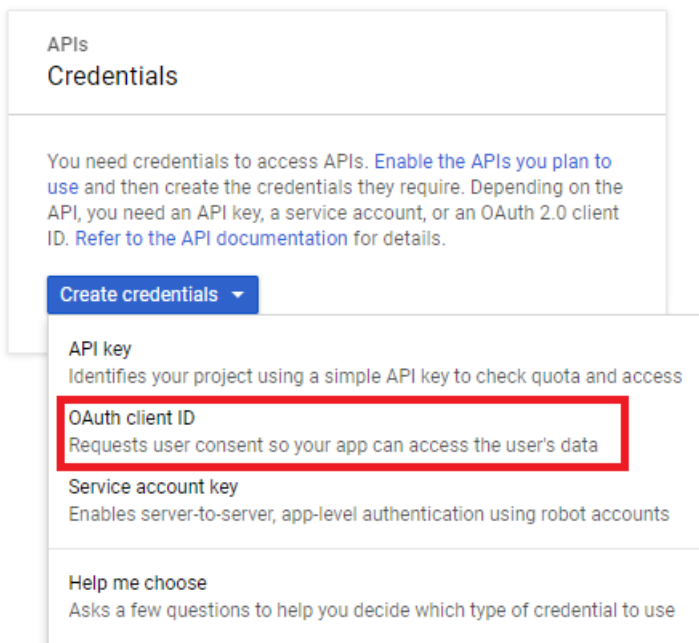

Figure 164 Click OAuth Client ID
- 10 On the next screen, click the **Create credentials** drop-down menu, then click **OAuth client ID** (Figure 164).